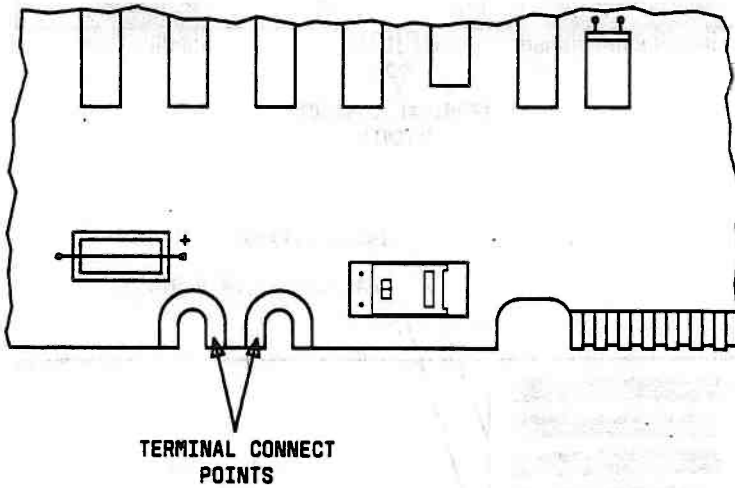

Figure 5-6. Motherboard +5 and GND Connect Points
13. Place the VOM across +5 and GND terminal connect points on the Motherboard (Figure 5-6).